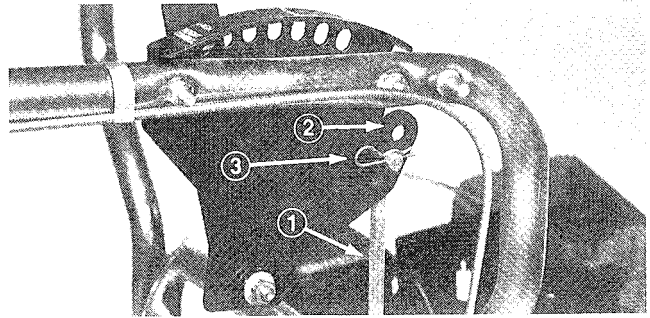

Figure 4
4. Secure upper end of height control rod to height adjustment handle with hair pin cotter (Fig. 4).